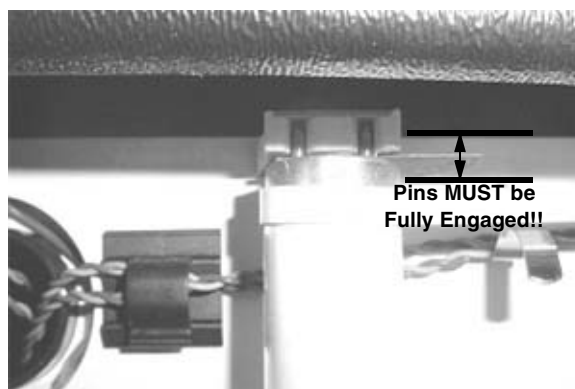

FIGURE 84
2. Engage lamp pins by pushing lamp in a direction toward the reflector surface, making certain pins are fully engaged in lampholder (see Figure 84).